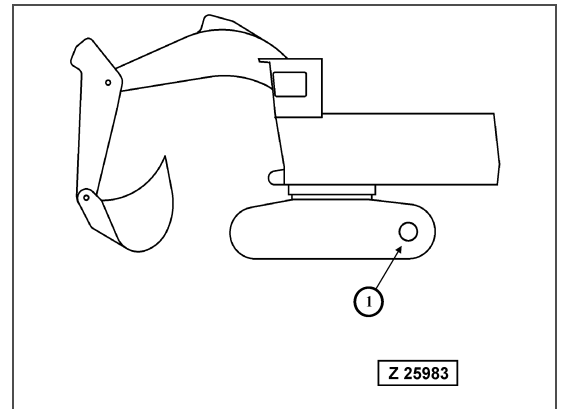

Fig. 3-21
- Before travelling, set the machine so that sprocket (1) is behind the operator's seat (Fig. 3-21).
- If sprocket (1) is in front of the operator's cab, the machine moves in the opposite direction from the operation of the pedals (front and rear travel is reversed, left and right steering is reversed). Be extremely careful when operating the machine in this situation.